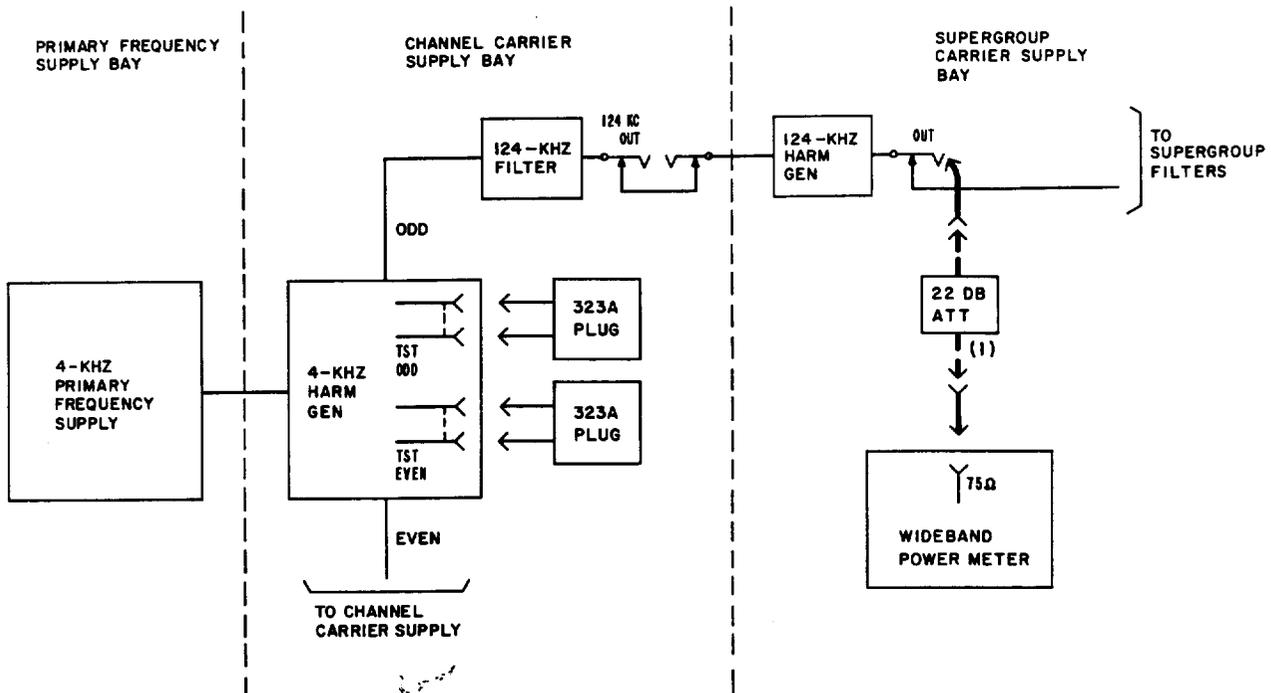

Fig. 2—Supergroup Carrier Supply—Measurement of 124-kHz Harmonic Generator Output Power
- 4 Connect the wideband power meter, through the 22.0 dB attenuator, to the OUT jack of the standby 124-kHz harmonic generator [patch (1), Fig. 2].